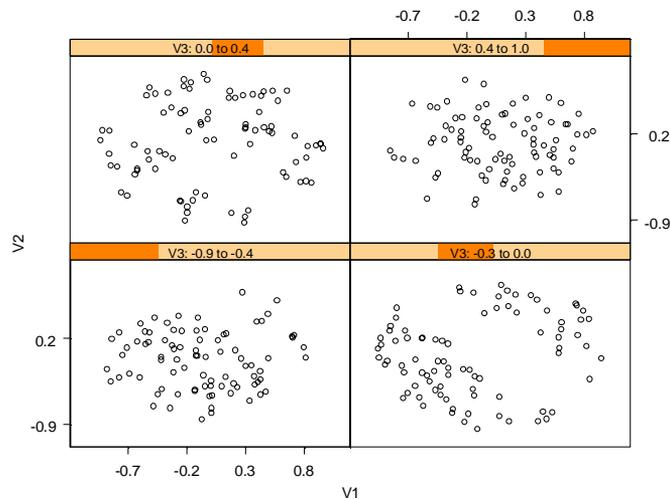

Figure 3.44: Trellis plot of the sliced ball data.
4. Click the **Scatter** button  on the **Plots 2D** palette. The resulting graph is shown in Figure 3.44.